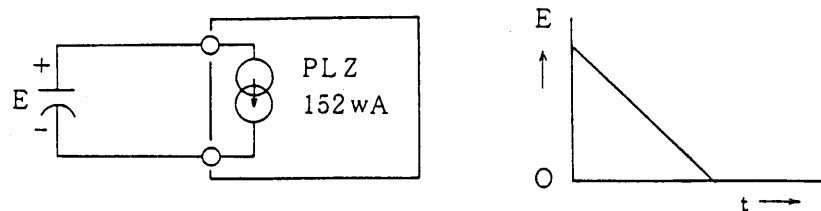

Figure 3-1-2
Figure 3-1-2 shows an example of constant current discharge test of a capacitor. The Load can draw a current down to zero volts of its input terminal voltage. Set the PRESET voltage (see Section 2.4 (1)) at zero volts.
(3) Test of Regulated DC Power Supply